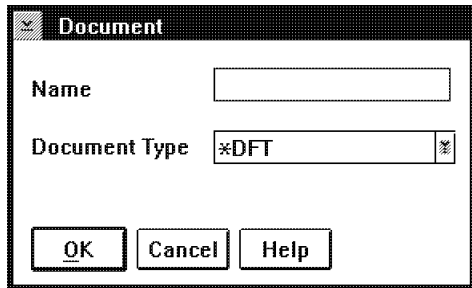

Figure 36. Document Window
1. Double-click mouse button 1 on the document node in the work process diagram. You see the Document window shown in Figure 36 on page 73.